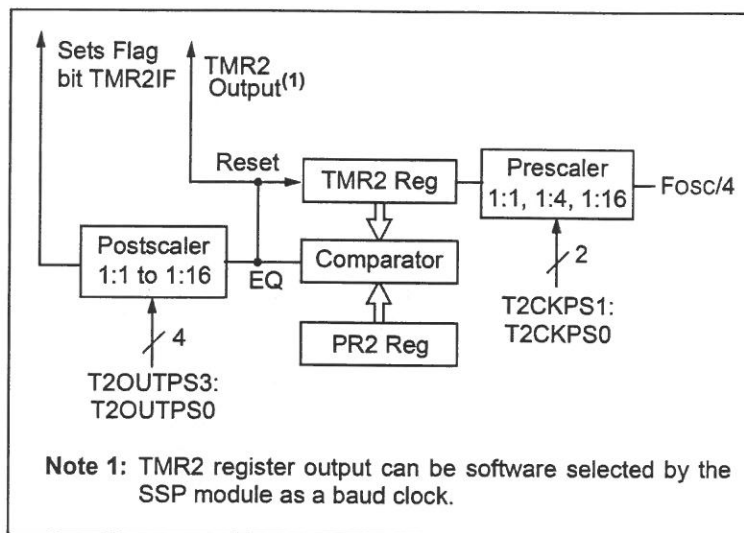

Figure 5(a)
- (b) Explain THREE (3) types of memories available in the Peripheral Interface Controller (PIC) microcontroller and how each of them are being used by the programmer. The description should include the size and the range of each memory explained. State the possible type of microcontroller used for Figure 5(b-2). Also, explain the amount of memory left in Data memory and Program memory of Figure 5(b-2). (9 marks)